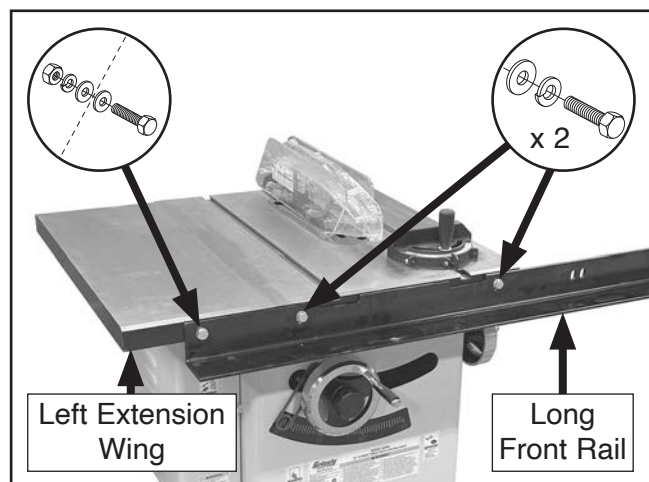

Figure 6. Long front rail attached to saw table and left extension wing.
9. Attach long front rail to saw table and left extension wing with fasteners removed in **Step 7** (see **Figure 6**). Hand-tighten fasteners for now.